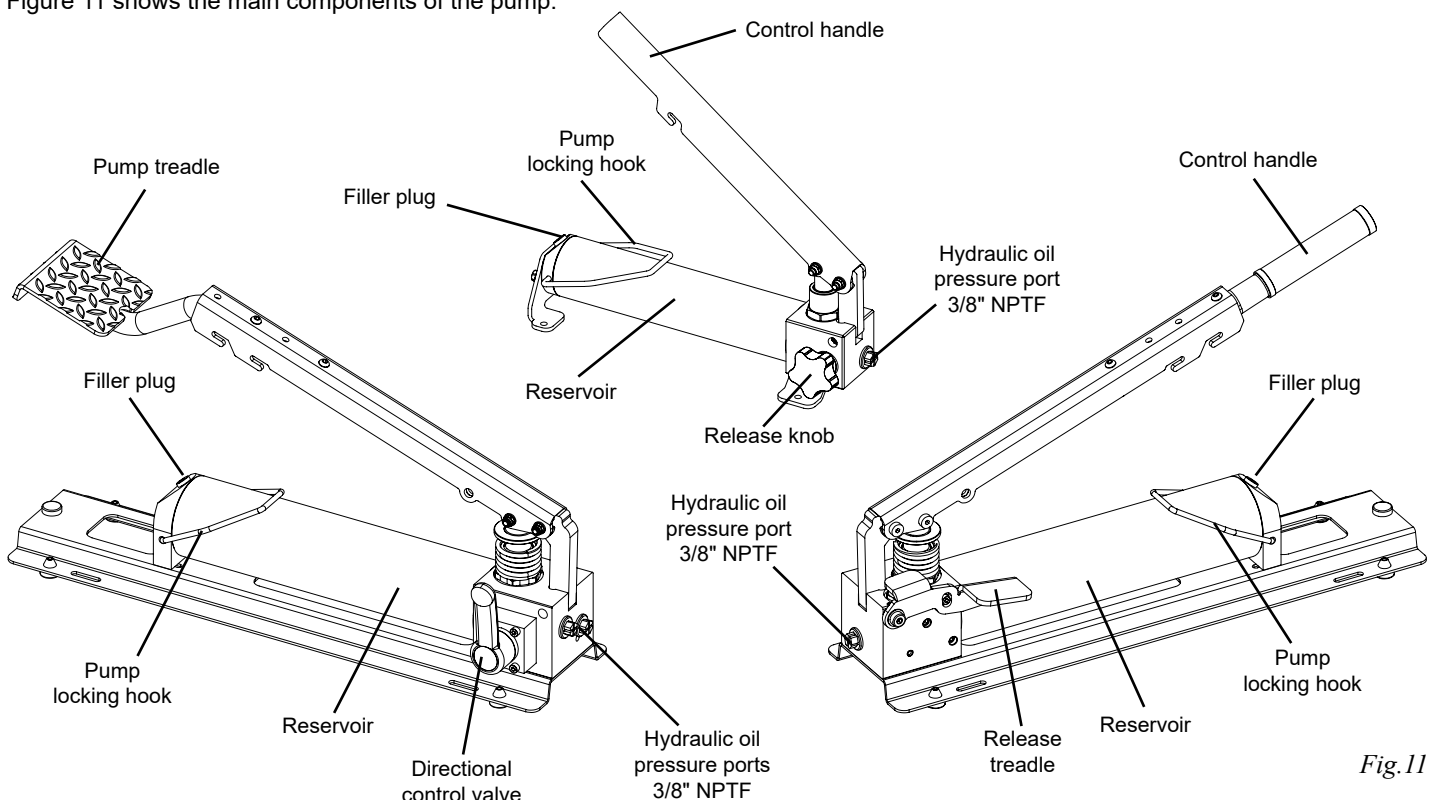

Fig. 11
Figure 11 shows the main components of the pump.
- Do not use the hose to remove the equipment connected to it. To move the pump carry it by the actuation lever after locking it with the relative locking device (fig.11, page 14).